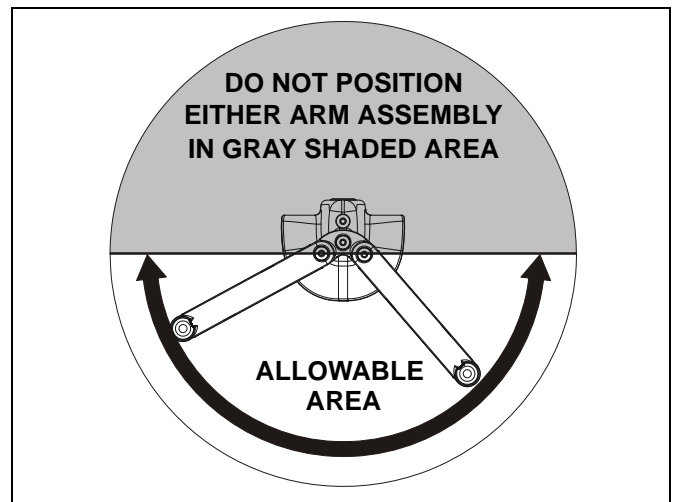

Figure 18: Allowable Arm Area
6. Position arm assembly (10) within UNSHADED area as shown (See Figure 18). Using 3/16" hex key, tighten screw (30) as required to maintain position.